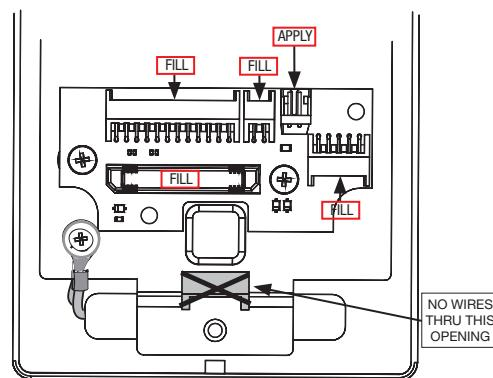
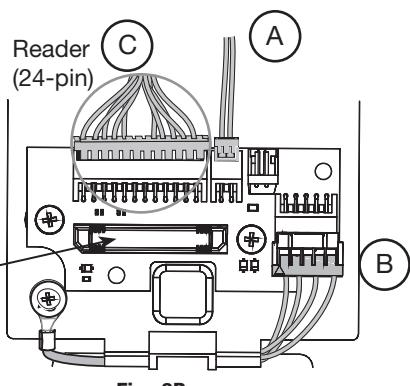

Fig. 3A
Fig. 3B
NOTE: Exit chassis harness consists of a 6-pin female connector and two different-sized ground lugs (Fig. 3A)
2. Feed 6-pin connector and larger ground lug straight through to outside of door (Fig. 3A, B) while feeding smaller ground lug into wire hole, up through wire channel and out through inside of door (Fig. 3A).
- Ensure all connector pins and contacts (Fig. 3A) are covered - do not overfill or over-apply**
IMPORTANT: Do not run wires through bottom hole in plate (Fig. 3A, B) - it will damage wires and the controller connector. Route wires around flange, do not route wires through the flange hole (Fig. 3B).
Secure the following connectors (Fig. 3A, B):
- Secure the mounting assembly while ensuring proper alignment of outside reader and fully tighten the (2) through-bolts on the inside of the door to secure the reader and plate to the door
C. Secure the 24-pin card reader connector (Fig. 3B)